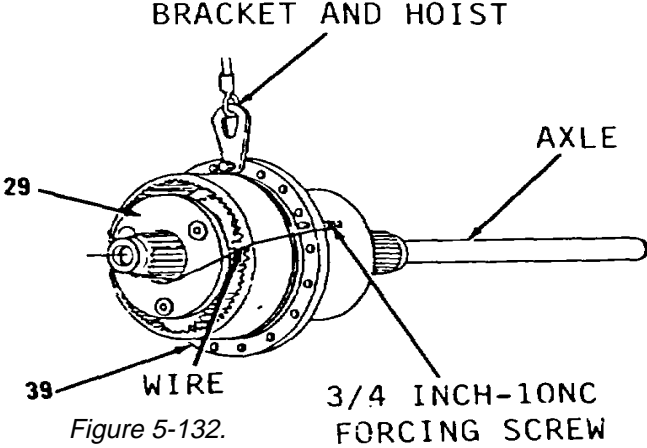
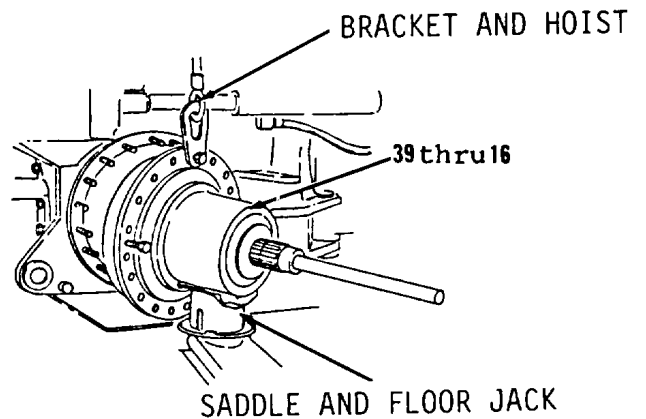

Figure 5-132.
Figure 5-131.
- 14. Install two 3/4-10NC forcing screws in housing (39). Attach wire to forcing screws behind housing (39) across planet carrier (29) to keep planet carrier from falling when items 39 thru 16 as an assembly (Figure 5-132) are positioned on vehicle.
15. Attach bracket and hoist to items 39 thru 16 as an assembly and position on saddle and floor jack. Put axle in position in housing (39) to keep items 39 thru 16 as an assembly (Figure 5-131) in balance.
16. Move items 39 thru 16 as an assembly to lower rear, left side of vehicle.
17. Remove wire and two 3/4-10NC forcing screws (Figure 5-132).